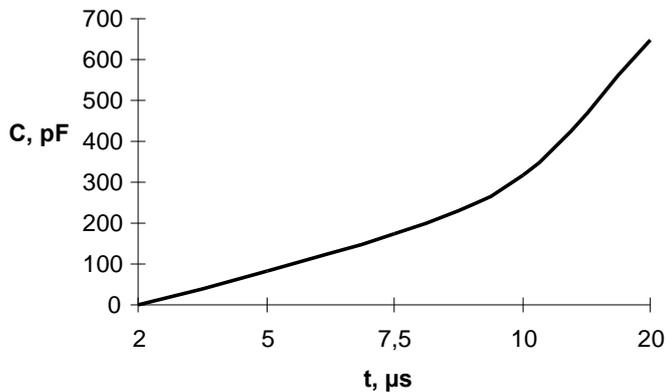

Figure 9 – Turn-on delay time of saturation voltage versus trimming capacitance  $C_b$  nominal
In order to increase protection operation delay it is recommended to install the capacitor with nominal shown at Figure 9. Initially capacitors of 100 pF are installed that corresponds to delay time 5  $\mu$ s (typ.).
- set up protection operate delay time by capacitor Cb in compliance with Figure 9;